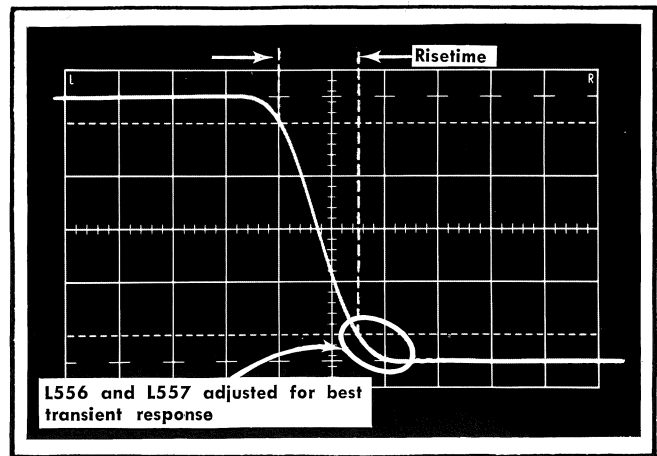

Fig. 5-36. Comp Sync waveform adjusted for proper transient response.
b. Set the Type 1A5 Volts/Cm switch to $.5\text{V}$ and rotate the Position and Variable (Volts/Cm) controls for a display amplitude of 5 cm as indicated on the test oscilloscope and shown in Fig. 5-36.
c. CHECK—Test oscilloscope display; risetime must be 260 ns within 15% and transient response must be similar to that shown in Fig. 5-36.